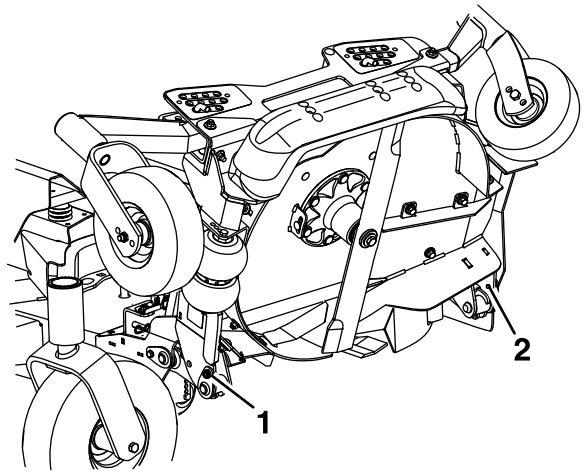
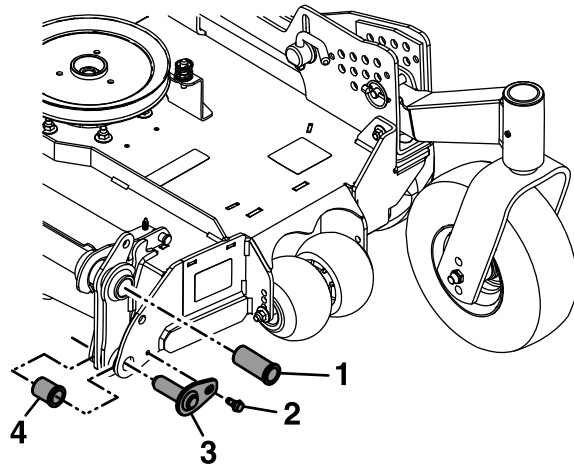

Figure 45
Figure 48
17. Remove and retain the lower pivot point bolts (reference Figure 45 and Figure 48).